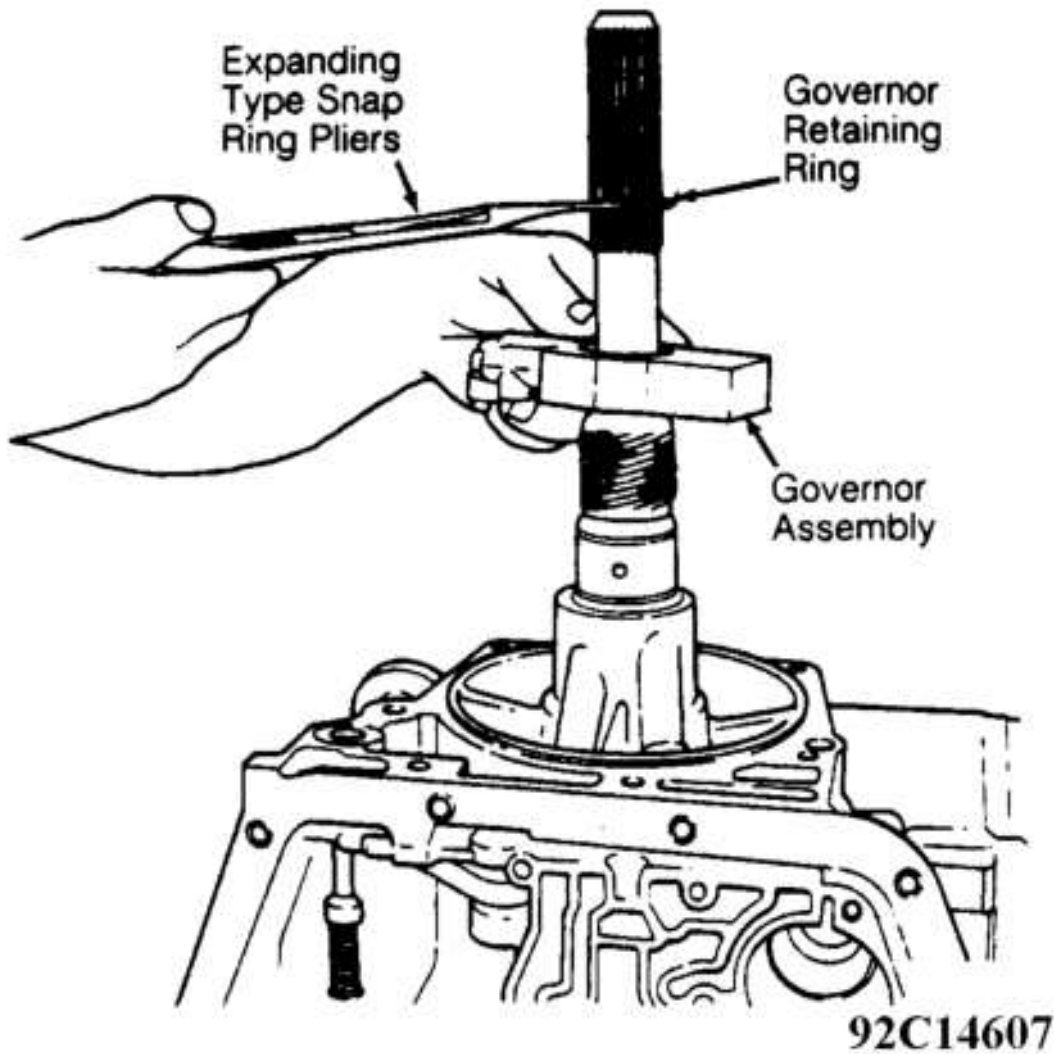

Fig. 3: Removing Governor Assembly
1. Remove extension housing. See REMOVAL procedure under **EXTENSION HOUSING** . Remove governor-to-output shaft retaining snap ring. Using a mallet, tap governor assembly off output shaft. See **Fig. 3** .